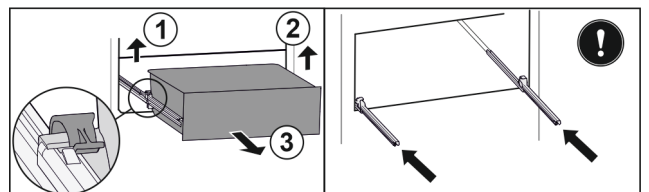

Fig. 201
- Lift left clamp and simultaneously pull drawer forwards on the left. *Fig. 201 (1)*
- Lift right clamp and simultaneously pull drawer forwards on the right. *Fig. 201 (2)*
- Remove drawer to the front. *Fig. 201 (3)*